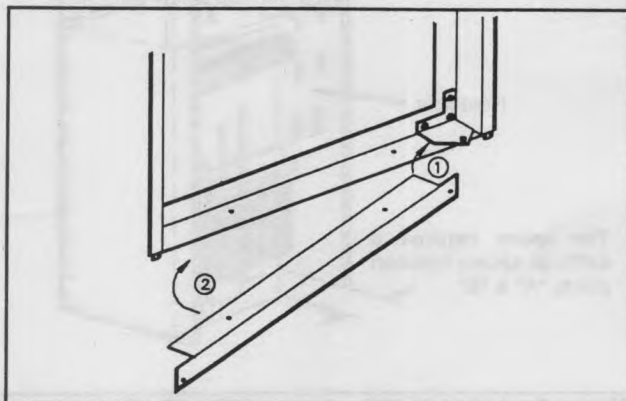

Figure 9
1. Install the lower flange by maneuvering it under and behind the bottom hinge plate, as shown in Figure 9 (the hinge will be located on either the right or left side, depending on door swing preference).